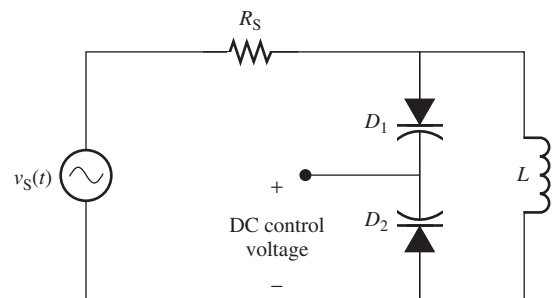

FIGURE 8.30 A tuning circuit using a varactor diode.
Varactors are commonly used in voltage-to-frequency converters or voltage control oscillators (VCOs). The VCO is an oscillator that changes the frequency of its output signal according to the value of the input voltage. The VCO is a widely used device in Frequency Modulation (FM) circuits. Another popular application of the varactor is in electronic tuning circuits (e.g., radio and television tuners). In these tuners, the DC control voltage varies the capacitance of the varactor, retuning the resonant circuit. A simple tuning circuit is shown in Figure 8.30.
In Figure 8.30, $v_S(t)$ is a small signal, (i.e., its amplitude is in the range of millivolts or less) that is much smaller than the DC control voltage. The small signal is a model for the received